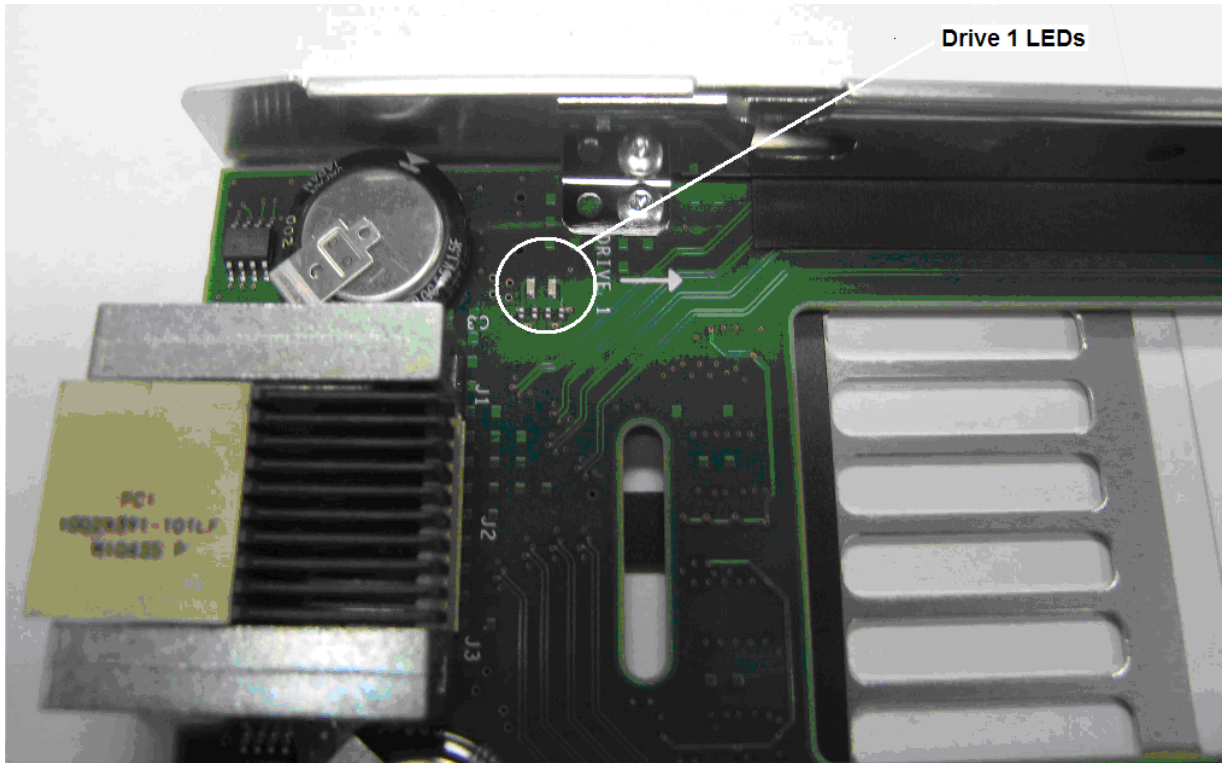
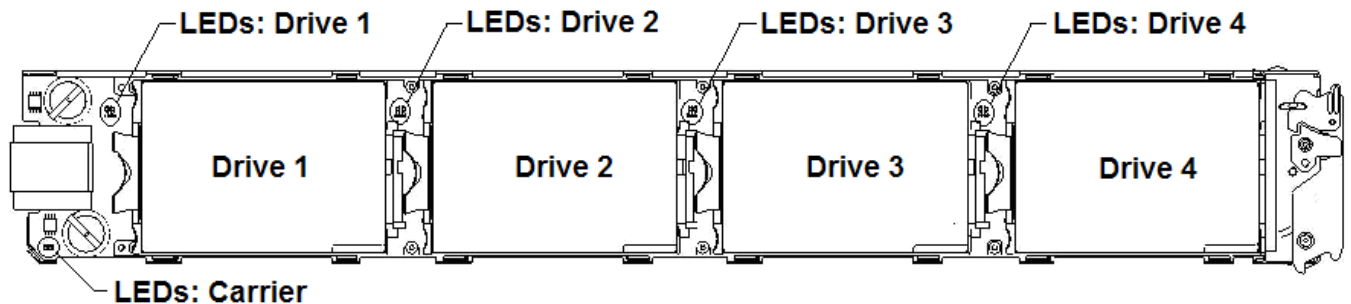

Figure 24 Drive 1 LEDs and arrow
Figure 25 Drive Carrier LEDs and Drive Locations
- c. Verify the green Drive Carrier power LED is off. Do not remove the Drive Carrier if its power LED is on. If the power LED is illuminated at least one hard drive or SSD is active. Removal of the Drive Carrier while any drive is active may **BRING DOWN THE FILESYSTEM**. Make sure all green drive activity LEDs on the Drive Carrier are off before removal of the Drive Carrier (see Figure 24).
- STEP 16 Confirm that the correct Drive Carrier has been removed by observing the LEDs. All 4 Drive Identify LEDs should be blinking. This is because all 4 drives were targeted with the mmhcarrier command. The blinking amber LEDs are next to a silk screen arrow pointing to the latch of the drive, and are labeled “Drive 1”, “Drive 2”, “Drive 3”, and “Drive 4” (see Figure 24 and Figure 25).